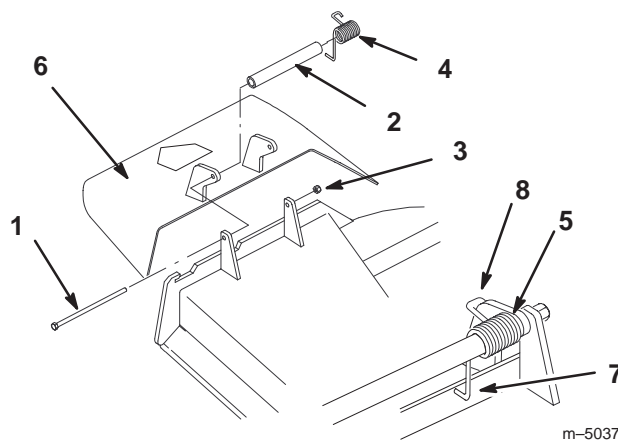

Figure 1
1. Remove the tension on the spring by unhooking the spring (Fig. 1).
2. Remove the locknut, bolt, spring and spacer holding the deflector to the pivot brackets (Fig. 1). Save the spring.
4. Place the **L** end of spring behind deck edge (Fig. 1).
Note: Make sure the **L** end of spring is installed behind deck edge before installing the bolt as shown in Figure 1.
7. Place the **J** hook end of spring around grass deflector (Fig. 1).